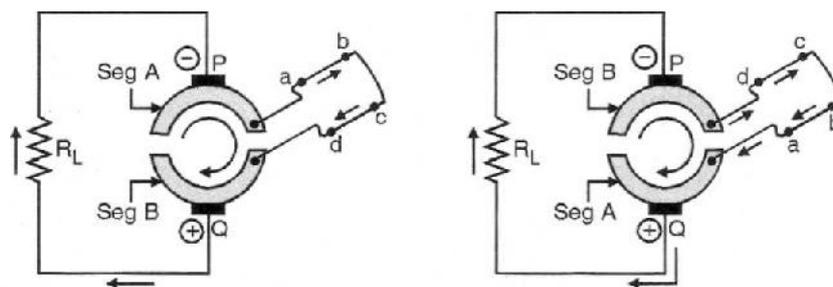

Figure-10 : (a) Initial equivalent circuit (b) Equivalent circuit after half rotation
- After half the rotation, the segments A and B of the commutator will change their positions as shown in Figure-10(b). So brush P is in contact with segment B and Q is in contact with segment A.
- The directions of currents induced in conductors "ab" and "cd" are reversed as shown in Figure-10(b)
- Hence the current through the external load continues to flow from bottom to top as shown in Figure-10(a).